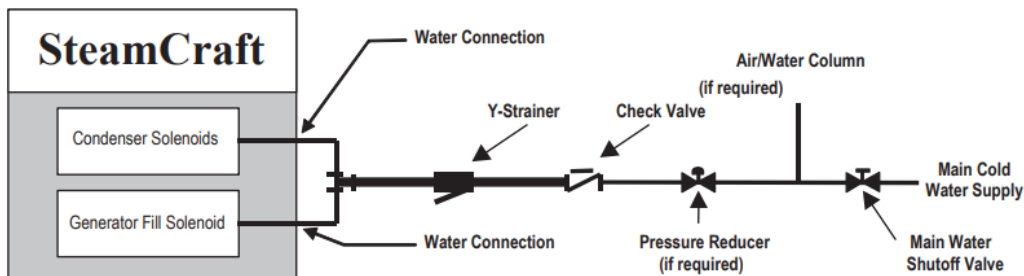

Figure 3-2 Cleveland Range Single Water Supply Arrangement
- b) **If the static pressure is above 60 psi, a pressure regulator must be used and set at approximately 50 psi. Pressure above 60 psi can damage solenoid valves. See Figures 3-2 and 3-3.**
- c) If the supply water meets the requirements shown in the Warranty, then the Single Water Supply Arrangement shown in Figure 3-2 may be used.